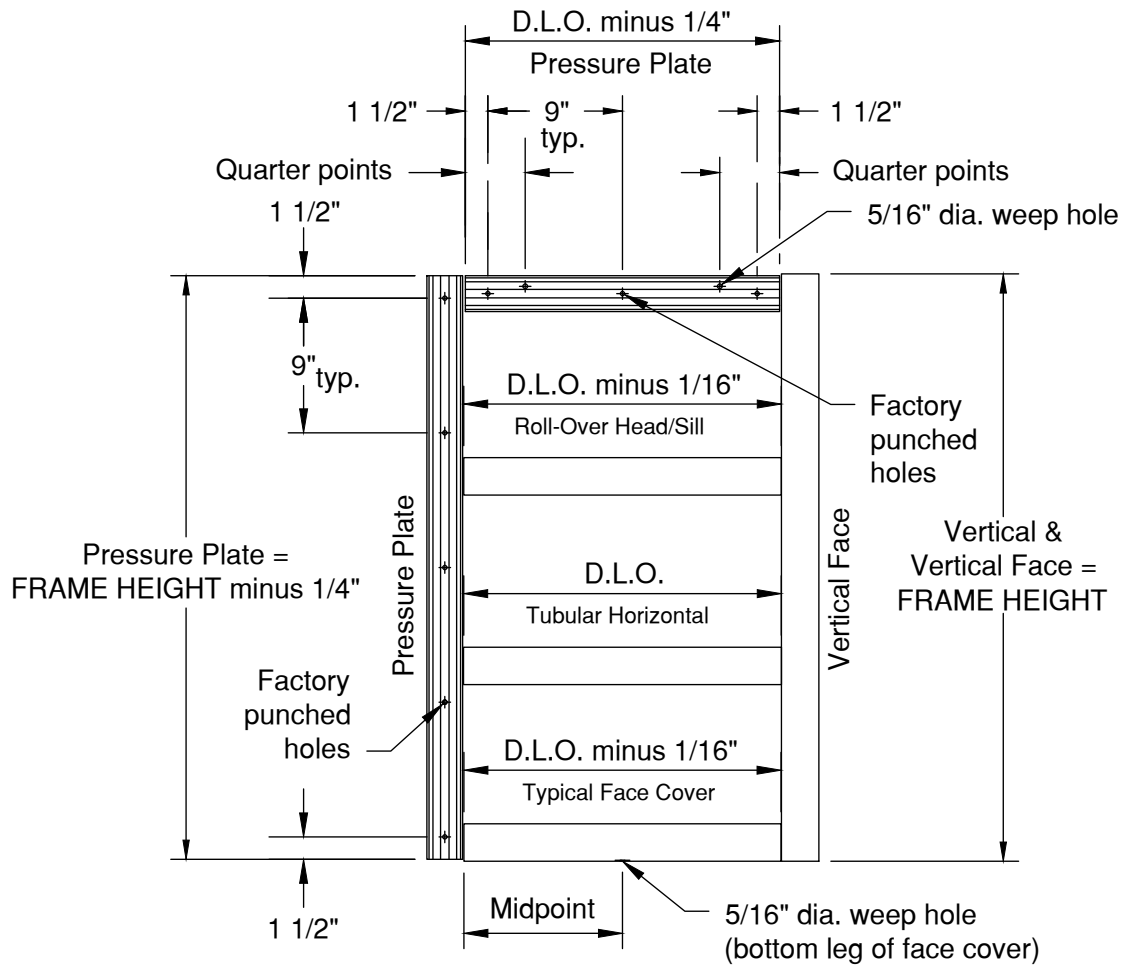

FIGURE 1
1.2 Cut material to size. **SEE FIGURE 1** for guide.